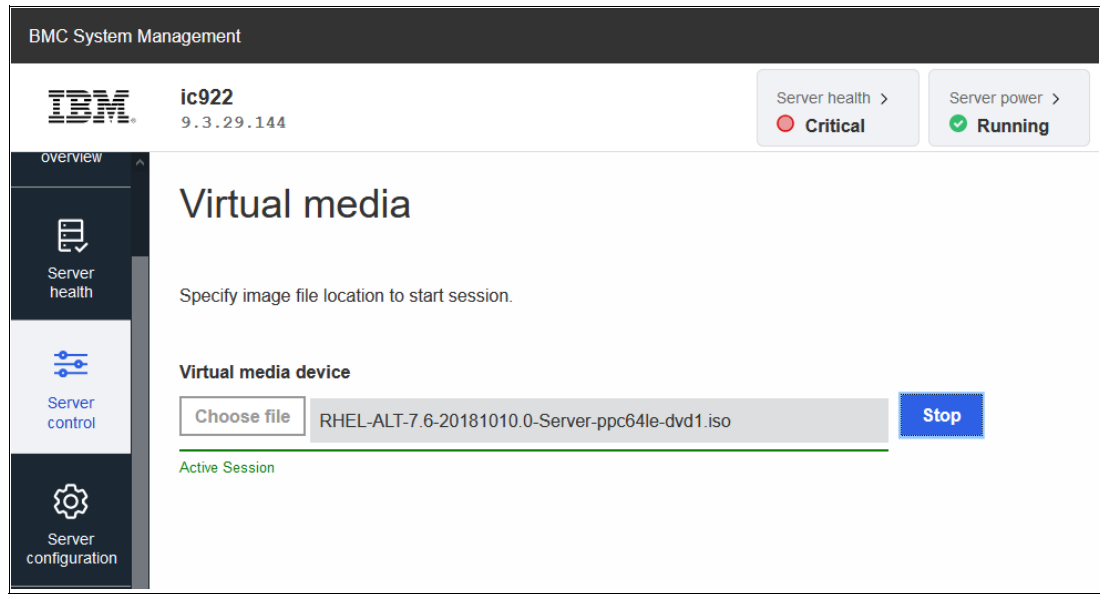

Figure 2-5 OpenBMC Virtual media
1. Download the Linux ISO image to your computer that you use to access the OpenBMC by using a web browser. Then, open the OpenBMC GUI and select **Server control** → **Virtual Media** to network-attach the ISO to the Power IC922 server, as shown in Figure 2-5. After clicking **Start**, the ISO is attached to the system.